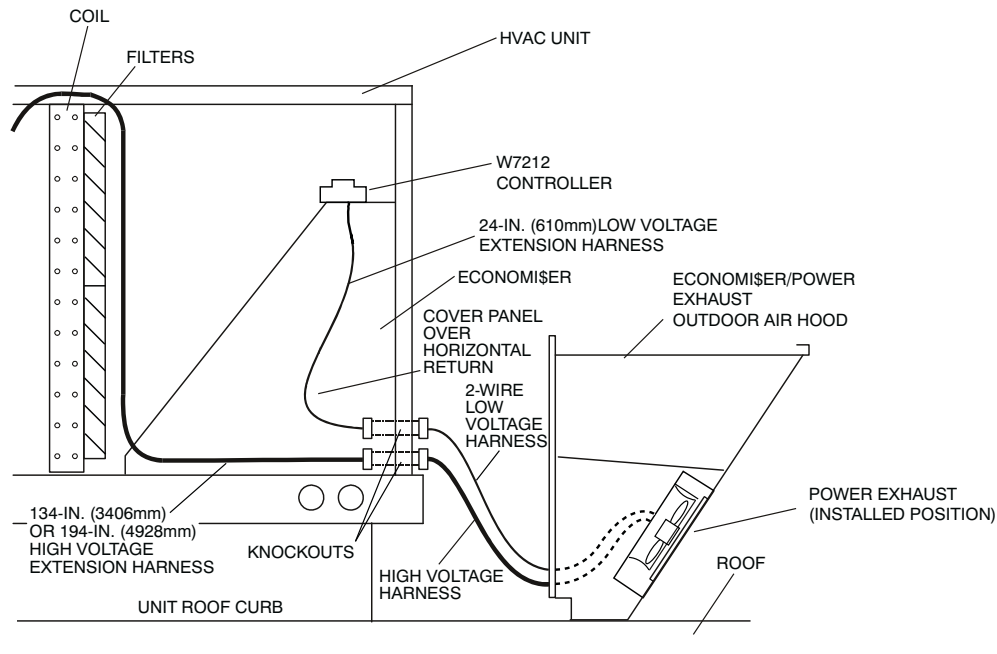
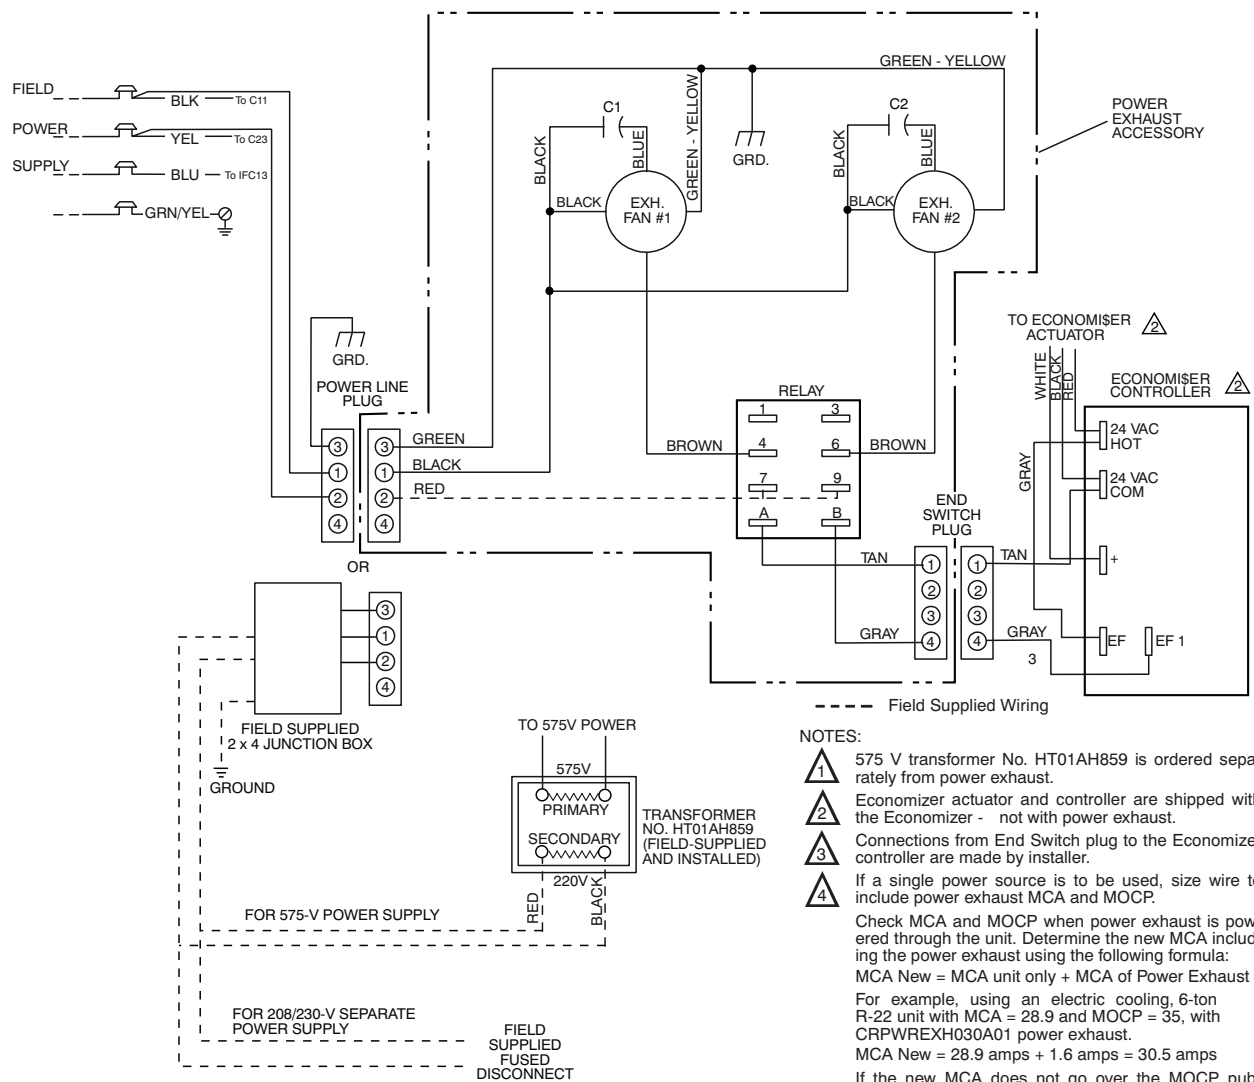

Fig. 4 - Power Exhaust Harness Installation for Economi\$er IV with W7212 Controller
Fig. 5 - Power Exhaust Wiring for Economiser IV with Controller W7212 — 208/230 V and 575 V Units
4. Route the other end of the 24 in. (610mm). low voltage extension harness to the Economiser controller. (See Fig. 4.) The harness is connected to the controller by connecting the terminal on the tan wire to the tan wire lead coming from the 24 VAC COM on the controller. The terminal on the gray wire is connected to terminal EF1 on the controller. Install the gray jumper wire on the controller from the exhaust fan terminal (EF), to the 24 VAC HOT terminals. See Fig. 5 and 6 for Economiser wiring diagrams.
7. From the rear of the Economiser, connect the long high voltage extension harness plug to the power exhaust harness. (See Fig. 4.)
8. Route the other end of the long high voltage extension harness through the HVAC unit to the control box. (See Fig. 7.) The harness must be routed through the grommets provided in the unit. Do not drill routing holes. Be careful not to route the power exhaust harness on top of the indoor coil. Wire the end of the high voltage harness extension to the power exhaust power source. (See Fig. 5 and 6.)
1. Wire the end of the power exhaust Power Line wiring harness to the power exhaust power source. See Fig. 5 and 6 for EconomiSer IV and EconomiSer2. Follow all local and NEC (National Electrical Code) codes. If a single power source is to be used, size the wire to include power exhaust MCA and MOCP. (See Table 3.)
NOTE: For 575-v installations, a field-supplied and installed transformer (part no. HT01AH859) must be used with 208/230-v power exhaust. (See Fig. 5.)